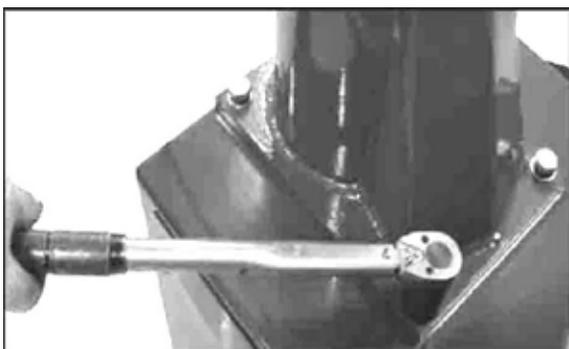

FIG 5
3.2.1 After un-package the package carton, take out accessory boxes (FIG 4-1), bead breaking arm (FIG 4-3) and column assembly (FIG 4-2). And position and fix according to the FIG5. Remove the bolt, elastic washer and plate washer on the body (FIG 4-4).
3.2.2 Place the column on the body. The direction of the warning label is forwards. Make the holes on the column base plate align to thread holes on the body. Once again assemble the removed the bolt, elastic washer and late washer and plate washer removed in 3.2.1 The torque is 70 N·M (FIG5) Use torsion wrench to tight